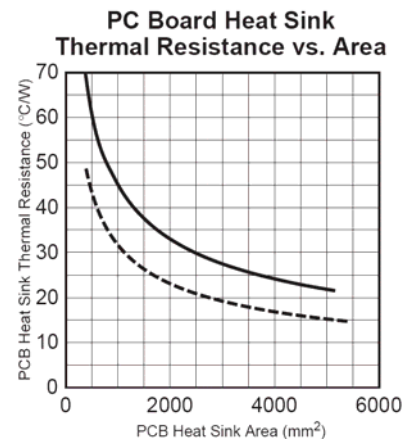

Figure 4. Excerpt from the LDO Book
- $R_{\theta_{CA}} = 53^{\circ}C/W$ Read from Graph in Figure 4